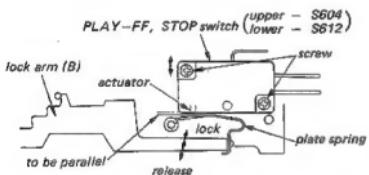

Fig. 3-3. PLAY-FF, STOP switch (S604, 612) position adjustment
Make the following adjustments by loosening the two microswitch holding screws. See Fig. 3-3. After that, apply lock paint to them.
1. STOP mode (Lock arm B is locked) Make sure that the actuator of microswitch is perfectly pushed with the plate spring as shown in Fig. 3-3.